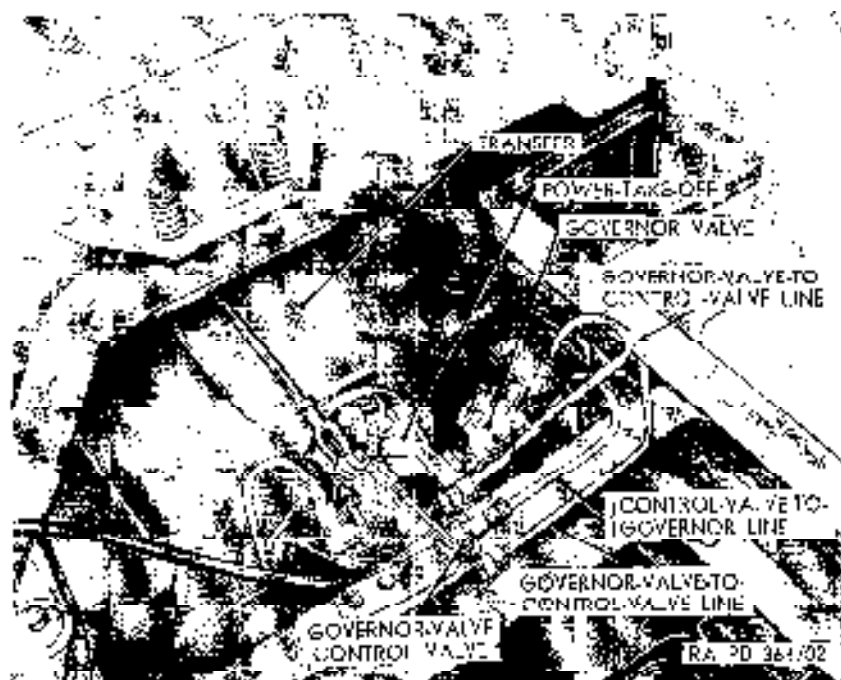

Figure 27. Power-take-off mounted on rear of tractor (M35C only) top left rear view.
- (d) *Hydraulic pump and controls.* The vane-type pump is located to the underside of the rear outrigger frame tube (fig. 86) is driven by a propeller shaft from the power take-off (fig. 27) mounted on the rear of the tractor. The shift